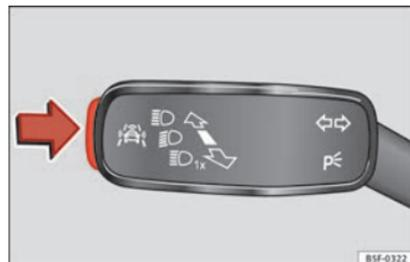

Fig. 89 On the turn signal and main beam headlight lever: button for the driving assistance systems
- Briefly press the button »» **Fig. 89** in the direction of the arrow to open the menu **Assist systems**.